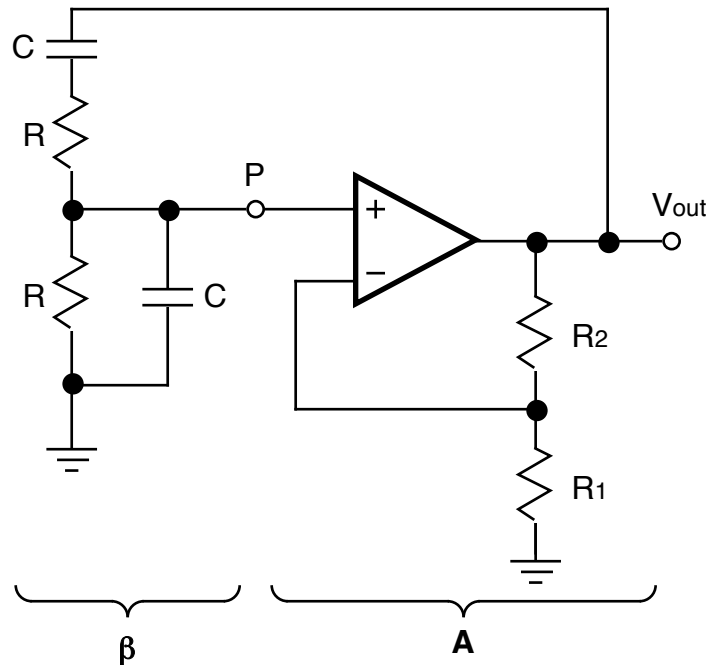

Figure 6.4
Hint: The circuit can be redrawn as shown in Figure 6.4. The β -network is a frequency selective attenuator that achieves a purely real attenuation at one specific frequency f_0 . The op-amp provides a purely real gain to counteract the attenuation so at f_0 the overall gain around the loop is unity. Note that the forward gain A now represents the closed loop gain of the op-amp/ R_1 / R_2 network, not the open loop gain of the op-amp.
Construct the circuit you designed in prelab 2.3. **Be sure to place the circuit components and wiring so that you can easily break the feedback loop at point P in Fig. 6.4.**
- 2.1 To check that you have designed for the proper loop transmission, break the loop (at point P in Fig. 6.4). Inject a 1kHz sine wave at the op-amp input, and verify that the signal returned around the loop at point P on the Wien bridge has approximately the same amplitude and phase.